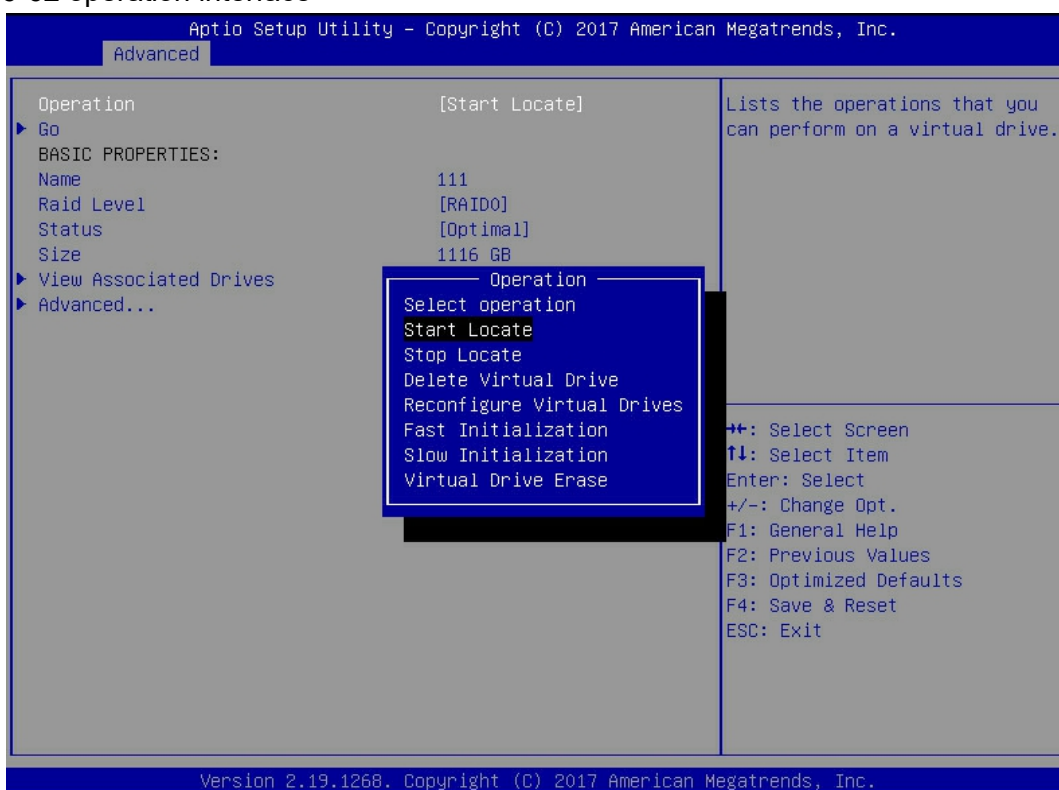

Figure 6-62
- c) Enter the interface shown in figure 6-62, select operation, press enter, and then select Start locate in the pop-up dialog box and press enter.
✧ Figure 6-62 operation interface